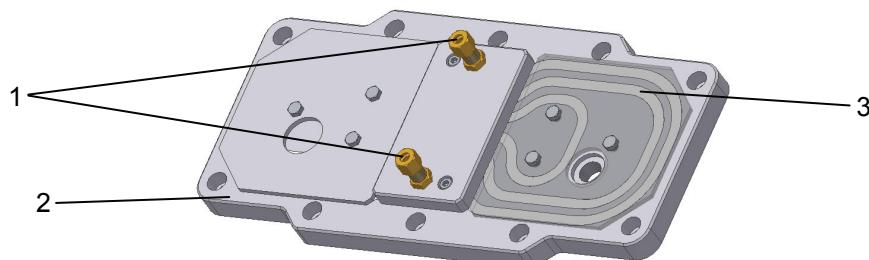

Figure 3-13: Cooling cover
Cutting ring screw threads (see Item 1, Figs. 3-13) are located at the casing cover for the connection of a pipe with an external diameter of 10 mm according to DIN 2353. **Remove the drain plug from the screw neck prior to assembly to avoid any contamination of the cooling system.** The screw necks should be connected with the coolant circuit, which must be provided by the operator. The flow direction of the coolant is irrelevant.
**Make sure not to twist the screw necks during or after assembly** as the cooling coil may be damaged (see Item 3, Fig. 3-13). You must ensure that no external forces act on the cooling coil.